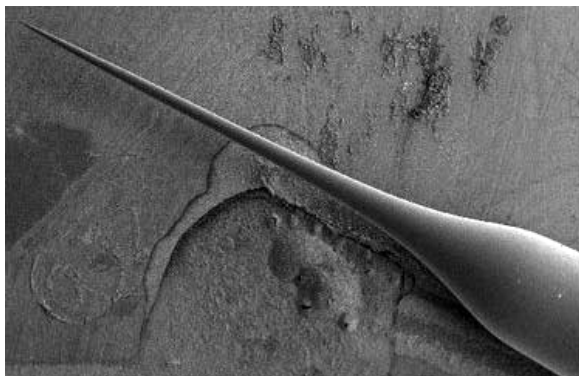

Figure 1 (© BioCurrents Research Center)
Figure 1&2: Scanning electron micrographs of the electrode used for ion detection, demonstrating the overall shape of the electrode and the geometry of the tip. Shape is important in producing a stable column of cocktail. Scale bars are 1mm (A), 1 $\mu$ m (B) and 1 $\mu$ m (C). Smith et al. (1999) *Micros. Res. Tech.* 46: 398-41.